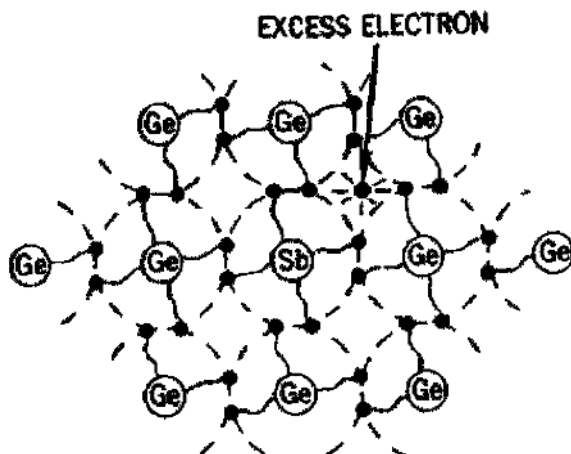

Figure 106. N-type germanium.
8. Figure 106 shows that an antimony atom has gone into covalent bonding with germanium. The antimony atom in the material donates a free electron and these free electrons will support current flow through the material. The antimony is called a donor in that it donates free electrons. The germanium crystal now becomes an N-type (negative type) germanium.